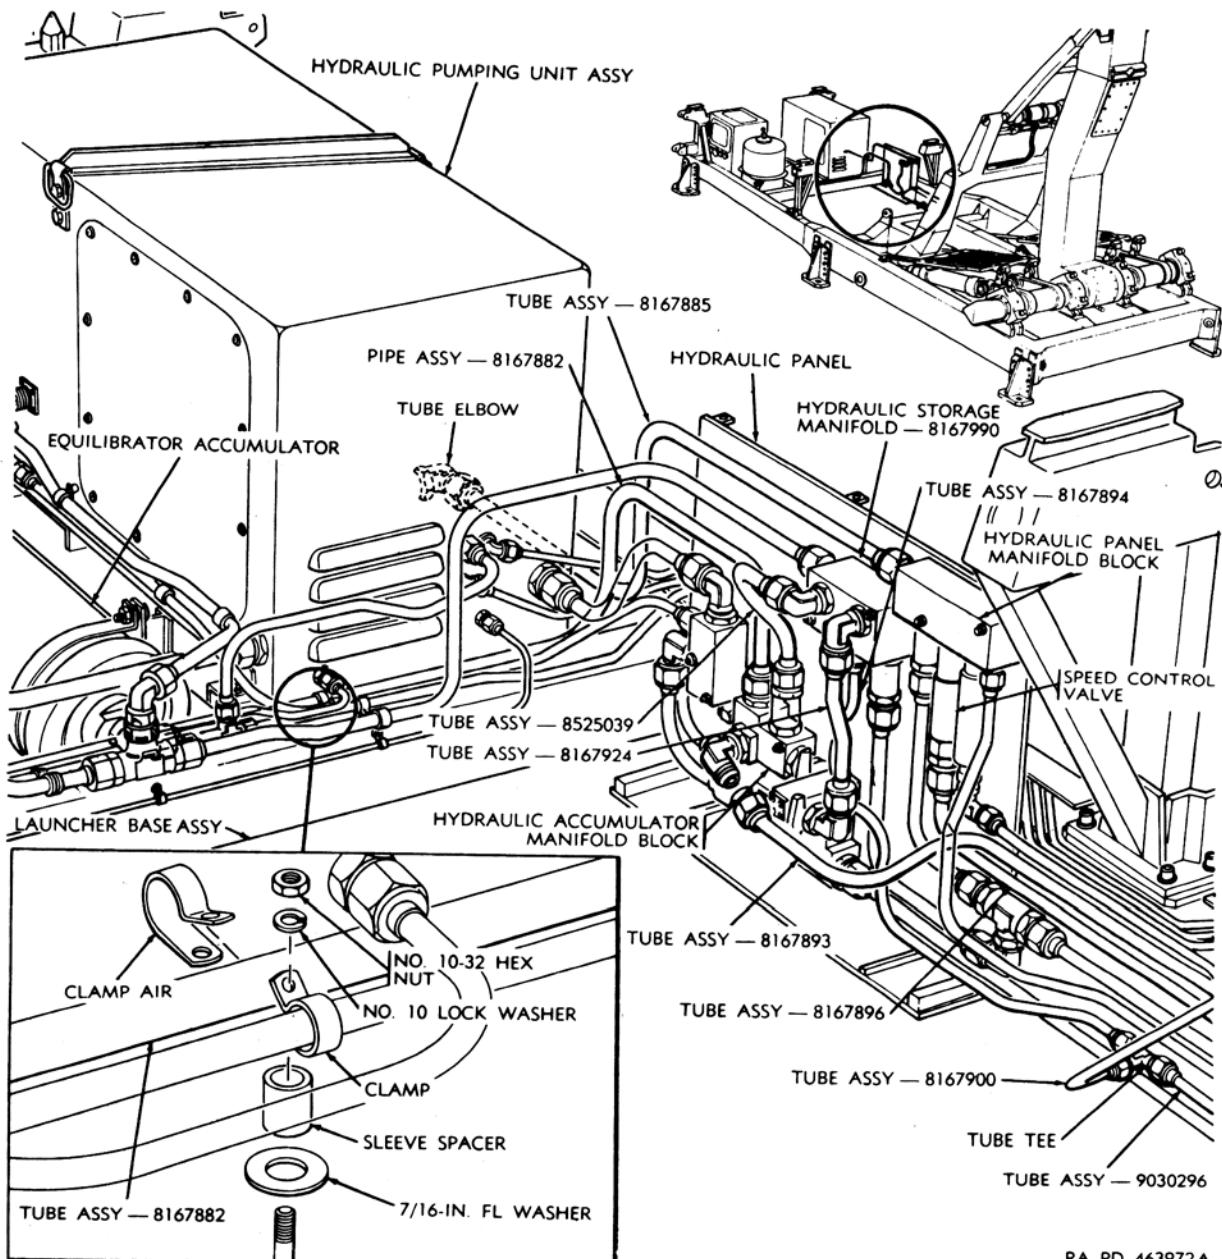

Figure 194. Equilibrator system hydraulic network—removal and installation.
- (5) Remove clamps (fig. 194).
- (6) Remove pipe or tube assemblies and tube tee; cap all open lines.